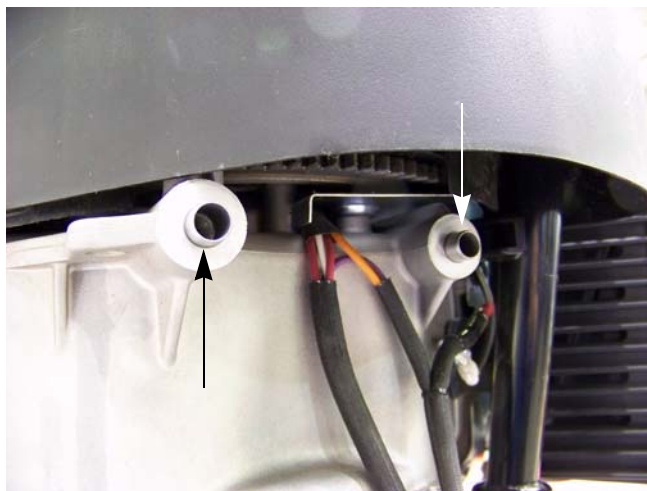

Figure 6.2
4. Slide the starter off of the dowel pins, indicated by the arrows in Figure 6.2.